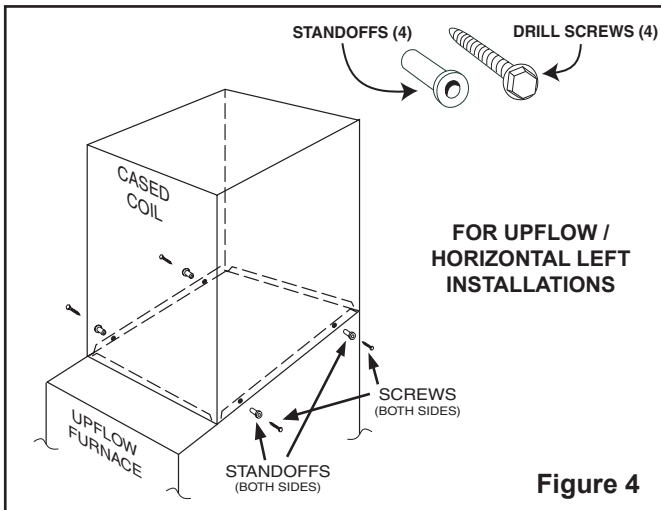

Figure 4
3. Insert standoffs into clearance holes in coil cabinet and use self-drilling screws to align coil and furnace. See Figure 4. Seal all gaps between the furnace and coil.